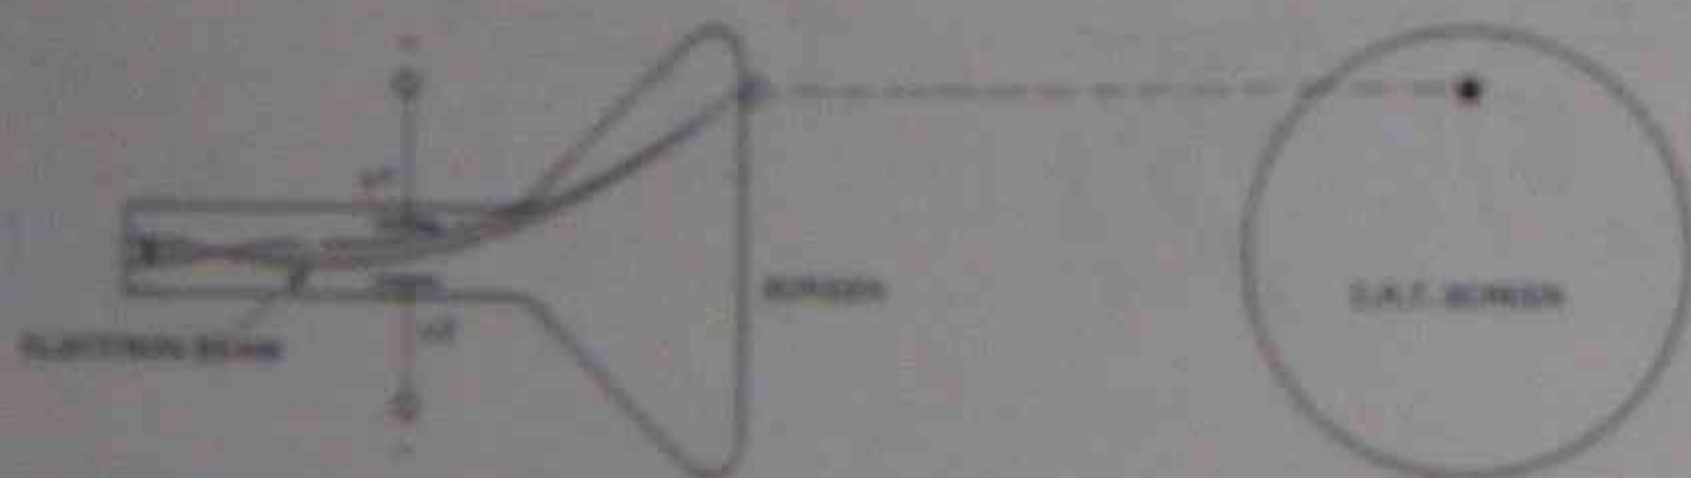

FIG. 7. VERTICAL DEFLECTION - TOP PLATE POSITIVE.
4.2 VERTICAL DEFLECTION. The set of plates above and below the beam produces deflection up and down, that is, vertically along the Y axis. These plates are called the vertical or Y plates. Assume that the top plate (Y1) is made more positive than the bottom plate (Y2), as shown in Fig. 7. The beam deflects away from bottom plate towards the top plate and is, therefore, bent upwards by the electrostatic field. The amount of deflection depends on the potential difference between the plates and is directly proportional to this potential. For example, if a 2 volt potential difference causes the spot to be deflected 1 cm, then a 10 volt potential difference produces a 5 cm deflection. Because the deflection is linear, the movement of the spot can be used to measure the applied P.D. Reversing the potential on the plates reverses the direction of the spot movement as shown in Fig. 8.